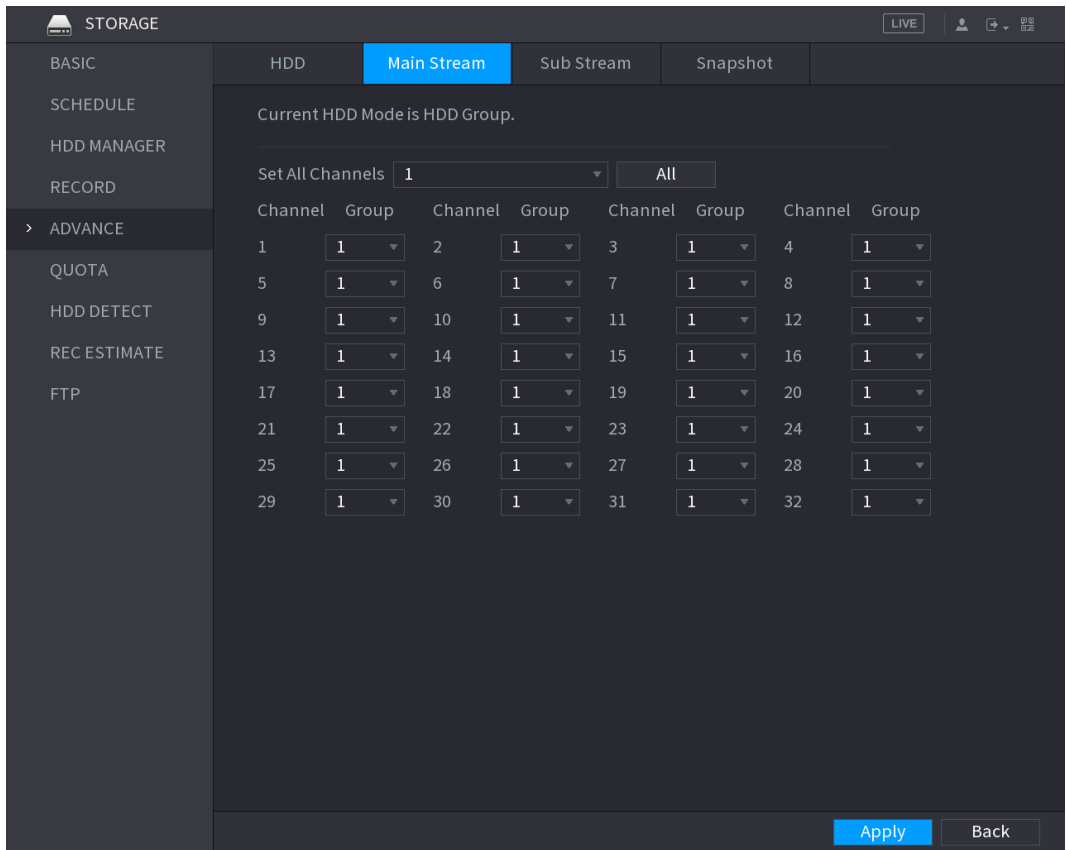
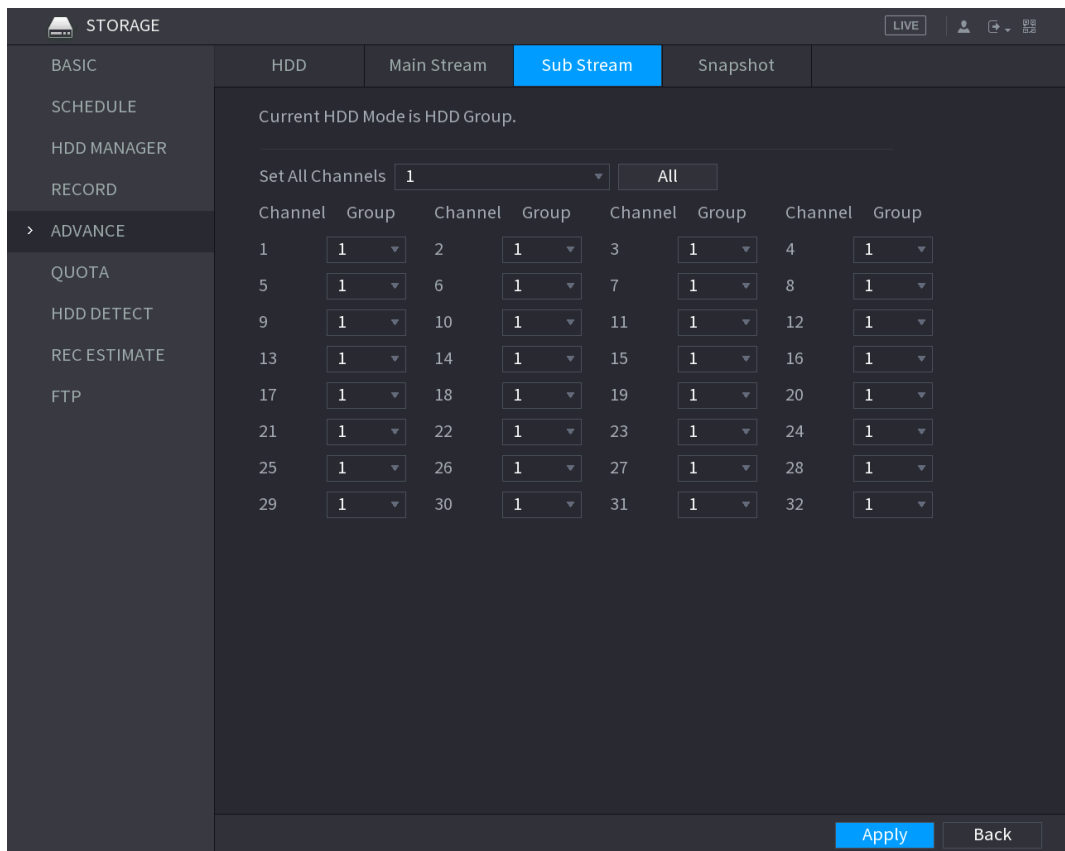
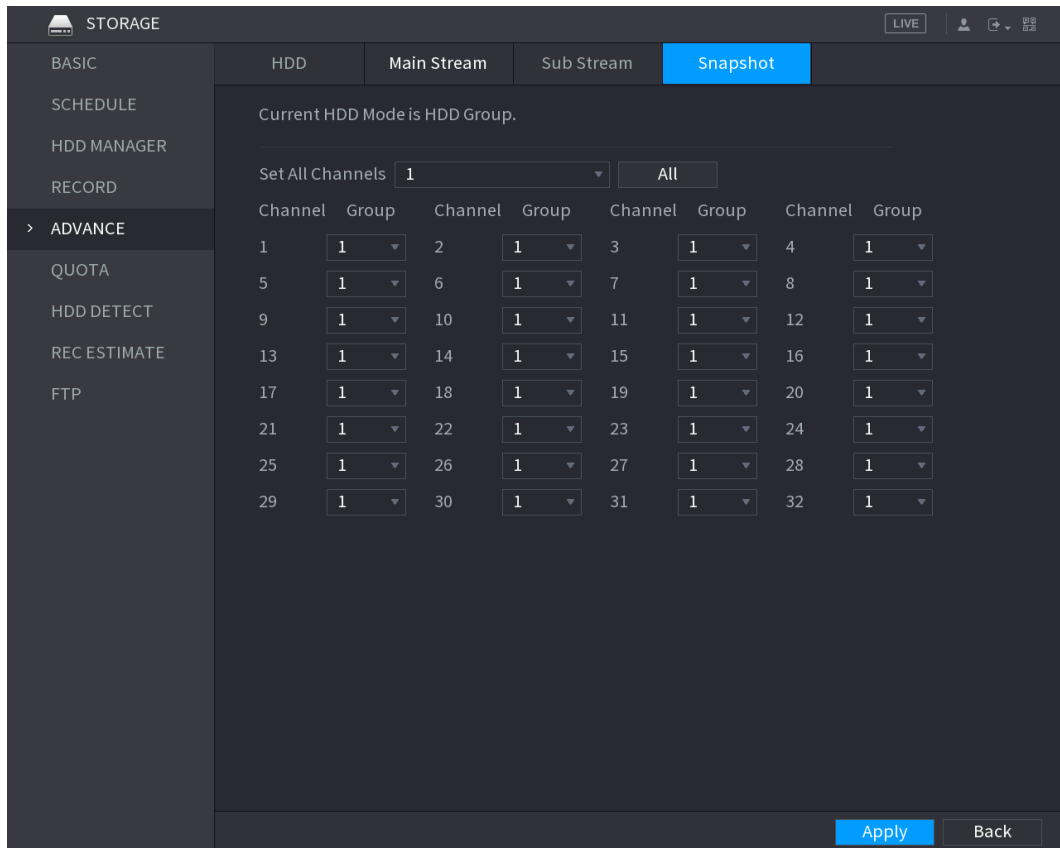

Figure 5-242
Figure 5-243
Figure 5-244
Step 3 After configuring HDD group, click **Main Stream**, **Sub Stream** and **Snapshot** tabs respectively, to configure the saving of main stream, sub stream and snapshot information of different channels to different HDD groups. See Figure 5-242, Figure 5-243 and Figure 5-244.